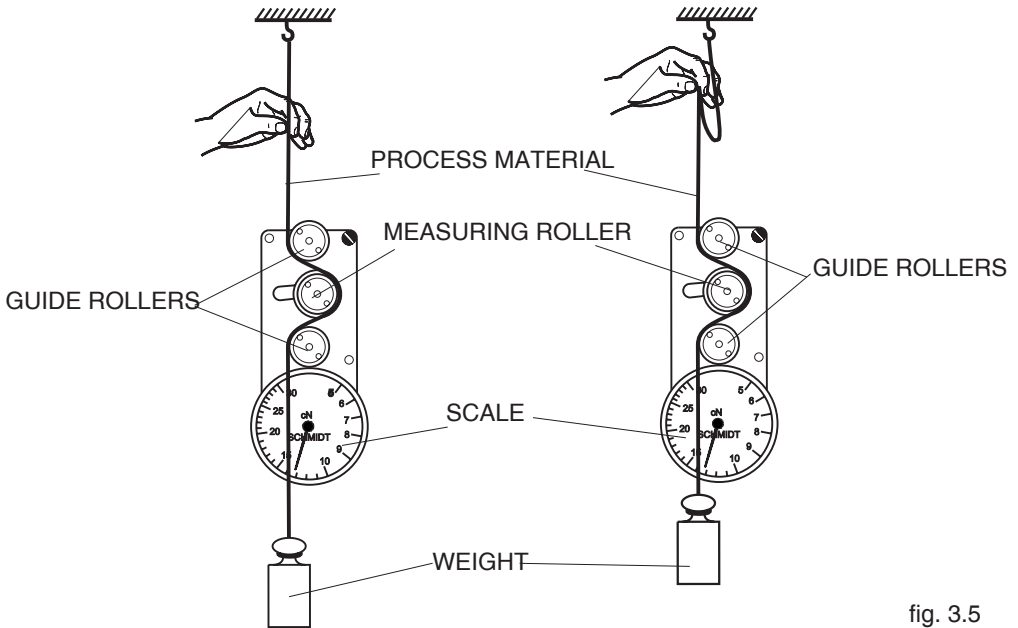

fig. 3.5
- Suspend a known WEIGHT that corresponds to the tension to be measured (pay attention to the correct unit of measure) from the PROCESS MATERIAL, vertically, as shown in fig. 3.5. (Always use a fresh portion of the material to be measured).